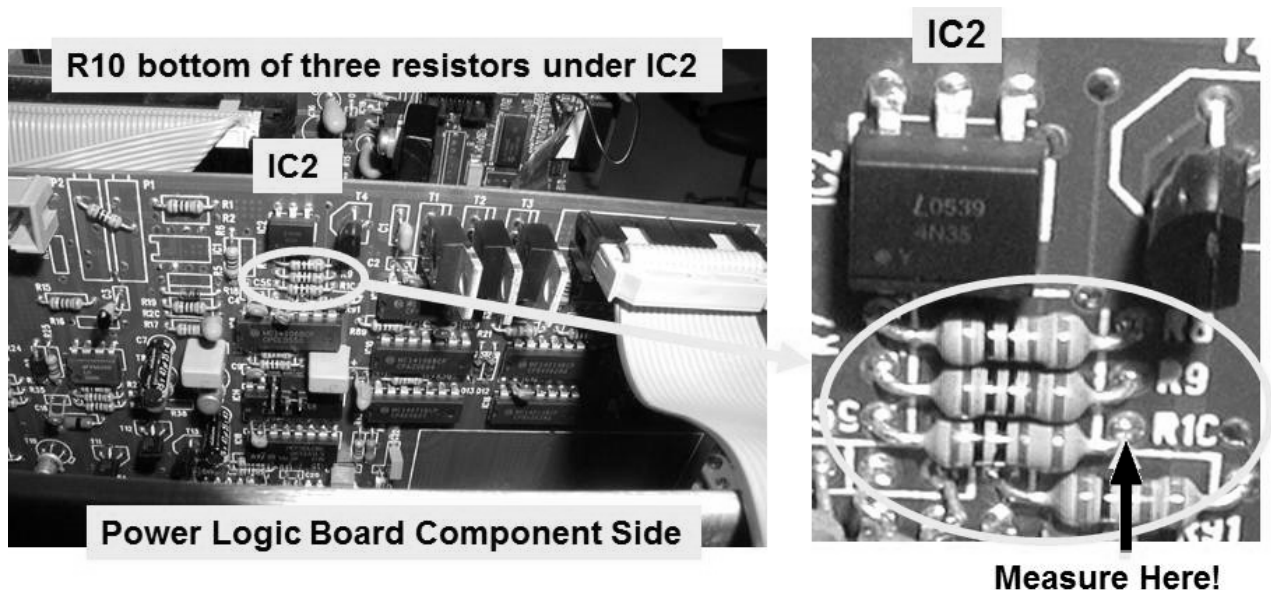

Figure 108 – Power Logic Board / R10
- c) Measure at the RIGHT side of **R10**, at the location shown in Figure 108. TWO (2) possible scenarios: